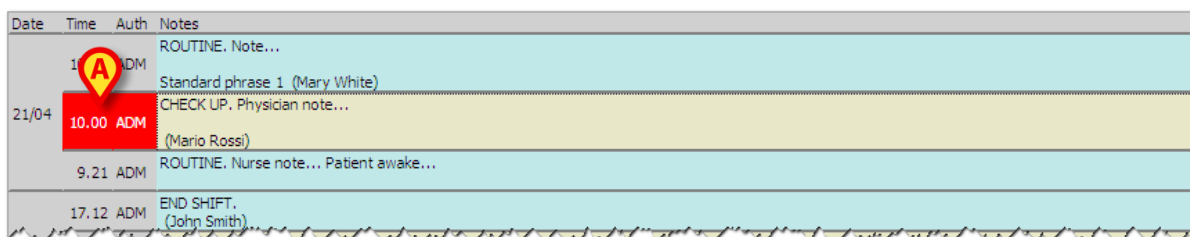

Fig 76
- click the note you want to edit. The note is this way highlighted (Fig 76 **A**).